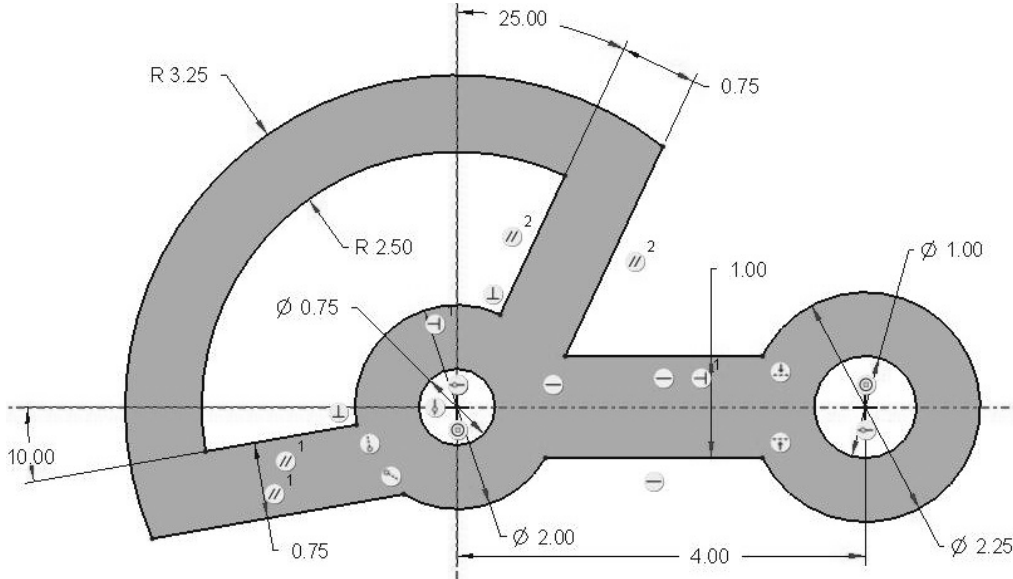

Figure 3-78 Problem 9—Adjustable Sector
3.9 Draw the "adjustable_sector" (Figure 3-78). **Design Intent**—The two holes need to be 4.00 inches apart. The angular slot needs to be 25 degrees clockwise from vertical to 10 degrees counterclockwise below the horizontal. **Design change:** To reduce stresses round all sharp corners using a 1/4-inch round or fillet. (Filletlets and rounds are not shown in the figure.) (>File>Options>Sketcher, change to 2-decimal places before sketching.)